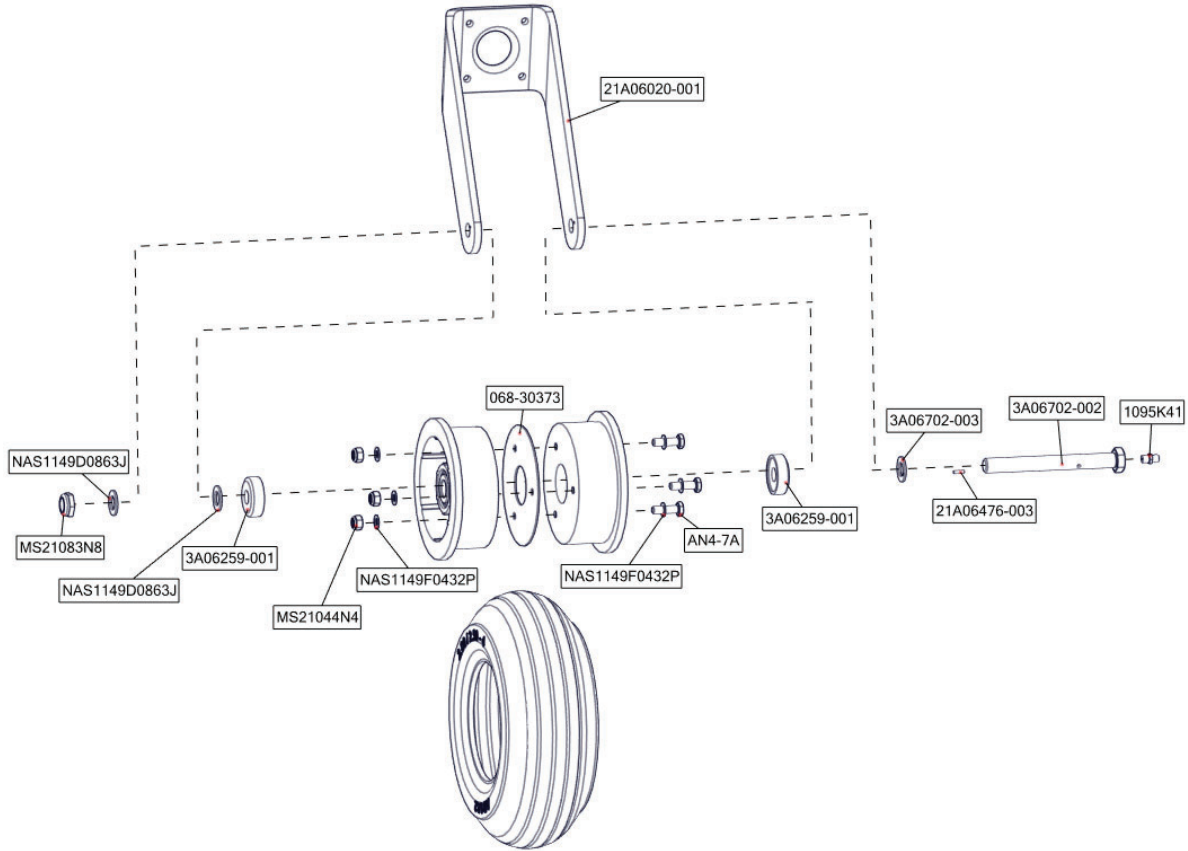

FIGURE 1: 2100, 2350 PARKER ASSEMBLY
- Figure 1: 2100A, 2350 Parker Assembly